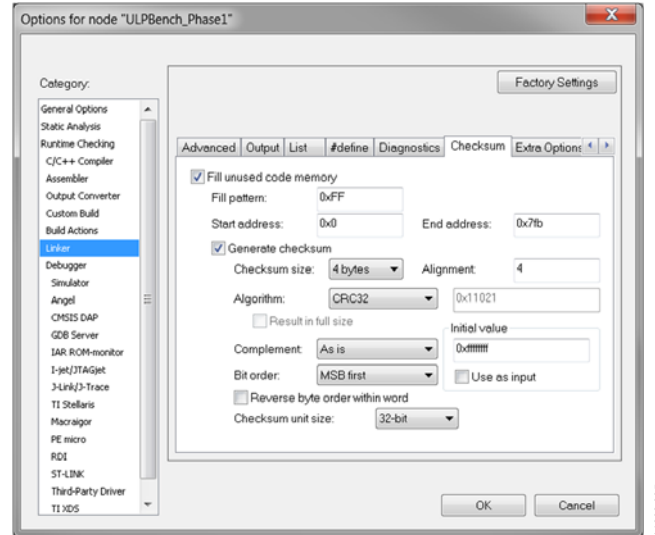
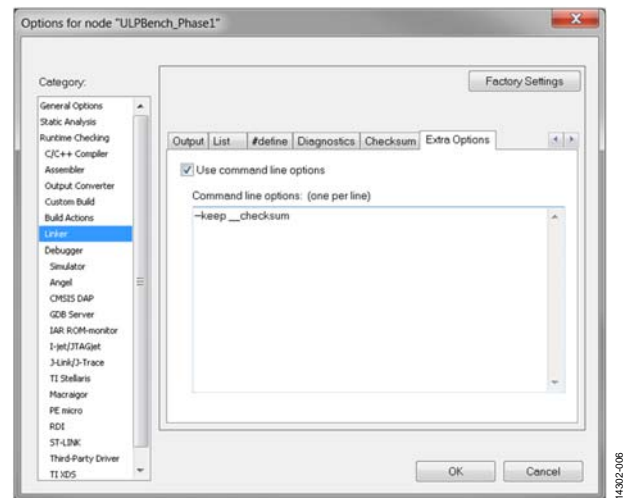

Figure 7. Linker Menu—Checksum Tab
Figure 8. Linker Menu—Extra Options Tab
4. A 32-bit CRC checksum stored in the **Signature** field enables user code to request an integrity check of the user space. The user can configure the checksum as shown in Figure 7 and Figure 8 (both configurations can be found in the **Linker** menu).